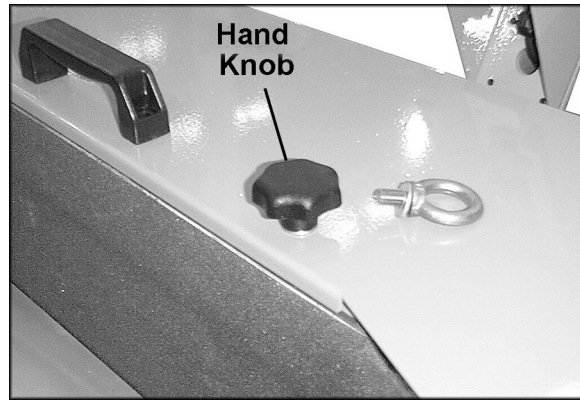

Figure 4
9. Unscrew the two eyebolts from the sander and replace them with the hand knobs, shown in Figure 4. Retain the eyebolts for future use. NOTE: After the mounting feet have been installed, the machine can be lifted with a forklift by forking beneath the base.